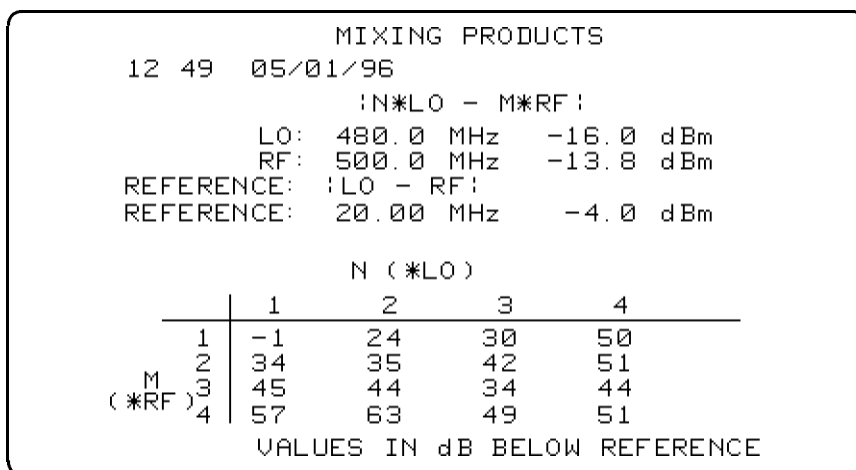

Figure 2-22. Mixer Measurement Results
- Press **MEASURE MIXER**. The utility makes the measurement and displays the results on the screen, as shown in Figure 2-22. Press **HARD COPY** to access a menu to print or plot the results.